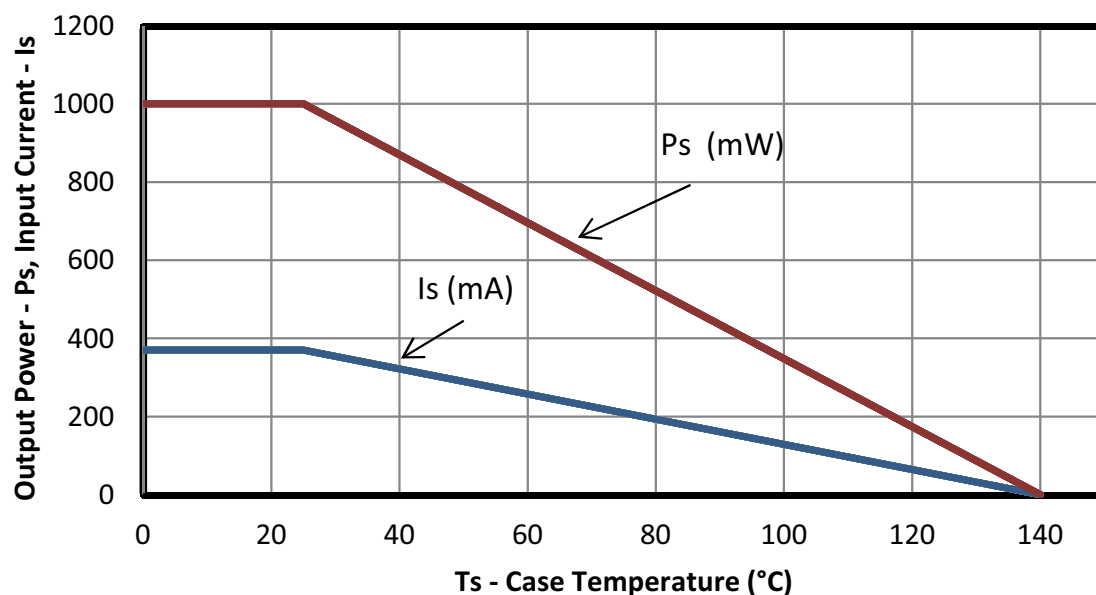

Figure 5. (SOIC-8) Thermal Derating Curve, Dependence of Safety Limiting Values with Case Temperature per DIN EN 60747-5-5 and VDE0884 part 10
*Note: Maximum value allowed in the event of a failure; also see the thermal derating curve in Figures 5, 6, 7, and 8.